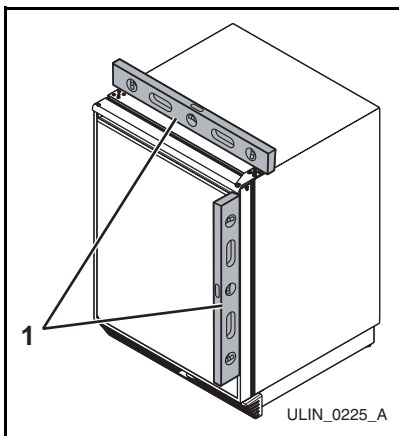

Figure 17
1. Use a level to check the levelness of the unit from front to back and from side to side. Level should be placed along top edge and side edge as shown (**Figure 17, 1**).